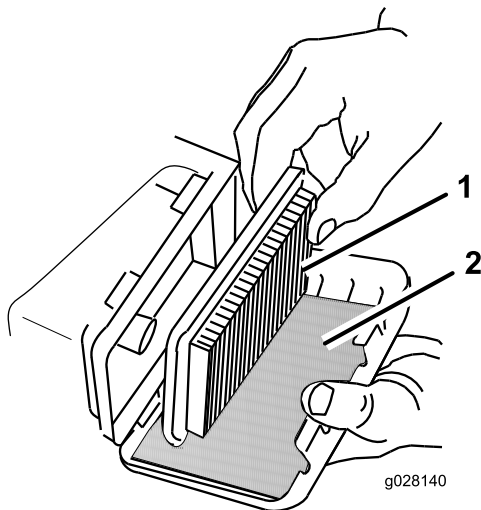

Figure 18
3. Remove the paper air filter and the foam pre-filter (Figure 18).